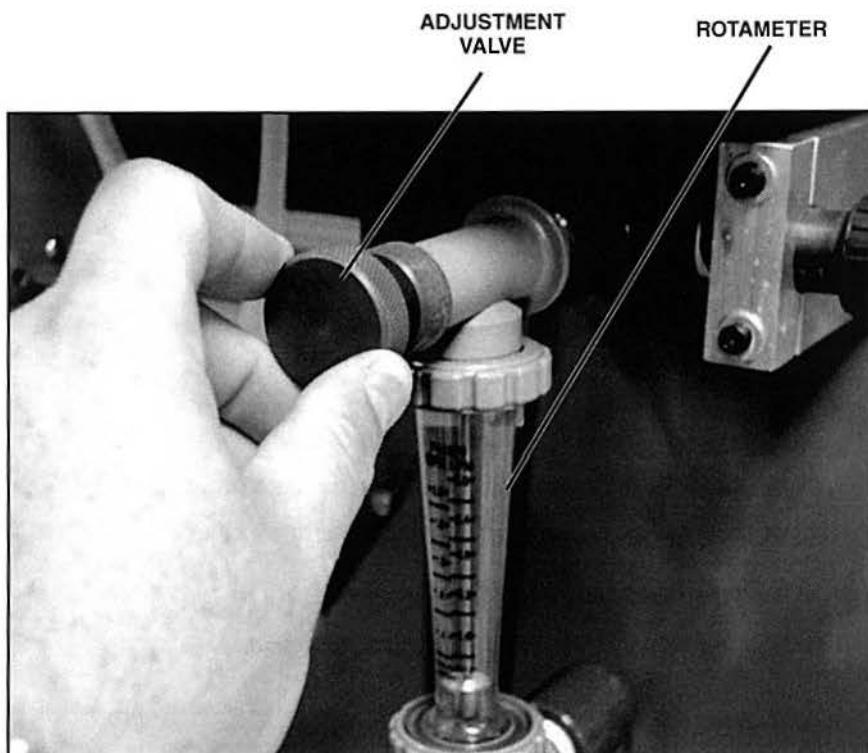

Figure 38. Adjustment Valve on Rotameter
- B. Set the flow rate to **1.2 gpm** using the adjustment valve on the rotameter, shown in figure 38.